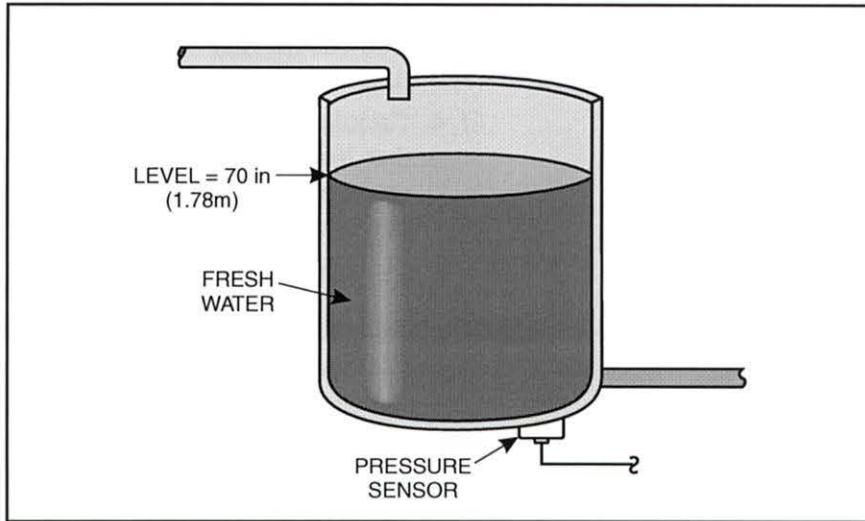

Figure 38. Level System
9. Determine the measured output signal of the pressure sensor shown in figure 38. The sensor has a 0-3 psi (0-20.68 kPa) input signal range and a 4-20 mA output signal range.